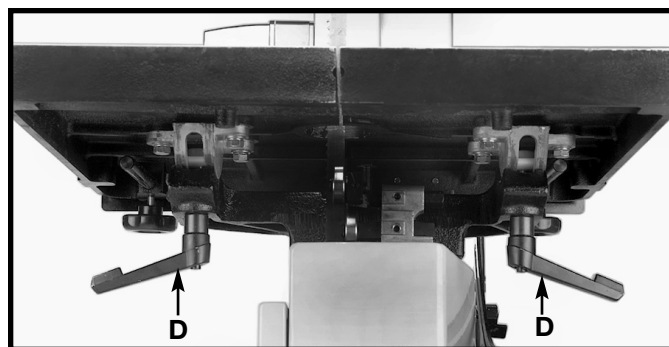

Fig. 7
4. Thread the trunnion lock knob (D) Fig. 7 onto the table stud. Repeat this process for the other table stud.